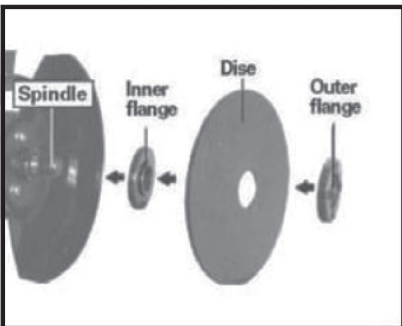

Fig 3
3. FITTING THE DISCS (see fig 3)
Place the grinding/cutting disc on top of the inner flange and over the spindle. Ensure that it is firmly located on the raised section of the inner flange. See fig 3. Locate the outer flange over the disc, making sure that the raised side is facing the disc and is fully seated in the center hole of the disc.